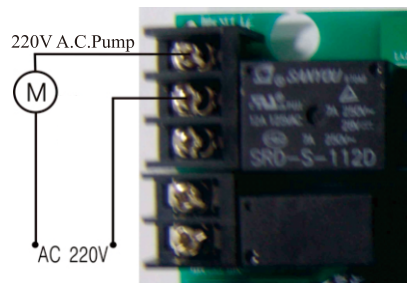
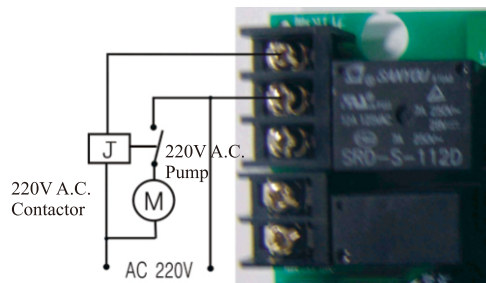

Figure 3-7 Wiring of Booster Pump on Inlet
Figure 3-8 Wiring of Booster Pump on Inlet
**Instruction:** If inlet water pressure is less than 0.15MPa, which makes rinsing or brine drawing difficult, a booster pump is suggested to be installed on inlet. Set control mode as b-01, when system in regeneration cycle, booster pump opens, the wiring refers to Figure 3-7. If the booster pump current is bigger than 5A, system need to install a contactor, the wiring refers to Figure 3-8.